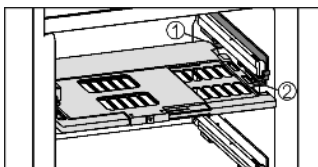

Fig. 8
- To insert the humidity control plate: Insert the cover mouldings of the plate into the rear holder Fig. 8 (1) from underneath and engage them in the holder Fig. 8 (2) at the front.